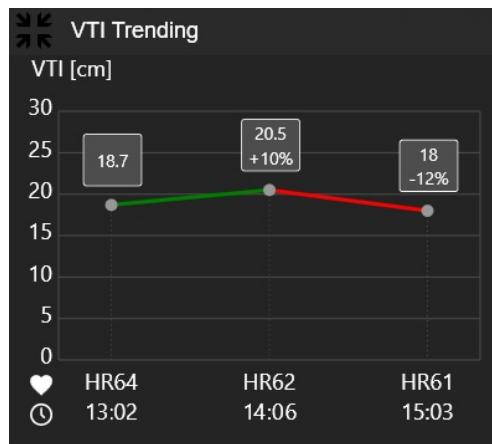

Figure 7-25. Auto VTI Trending graph
An example of a VTI trending graph is shown in Figure 7-25.
4. Tap **Trending** at any time to view the current Auto VTI trending graph (See Figure 7-25).